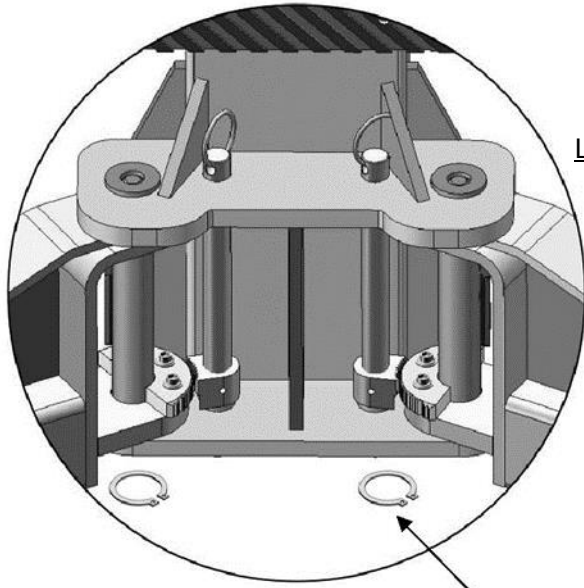

Fig. 27 Snap ring
1. Install lifting arms (Fig. 27).